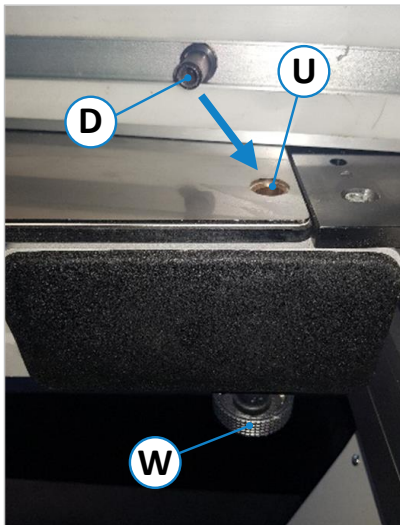
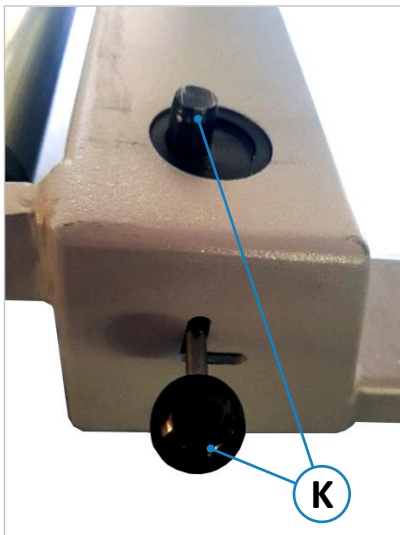
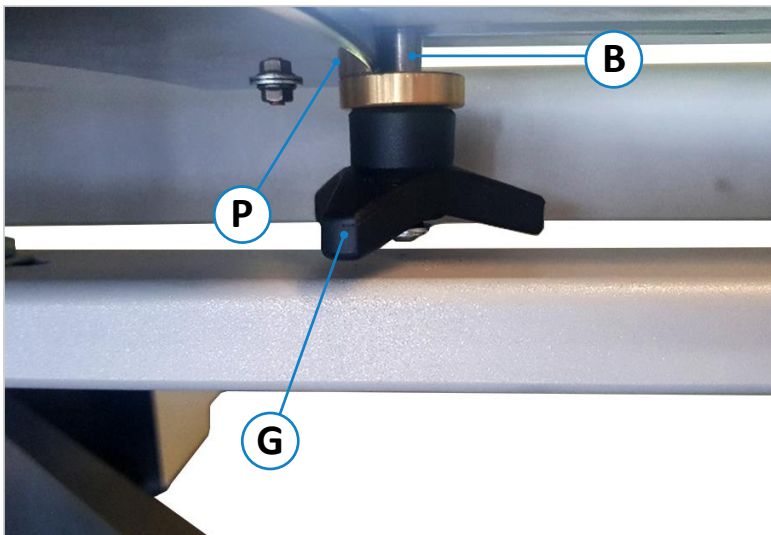
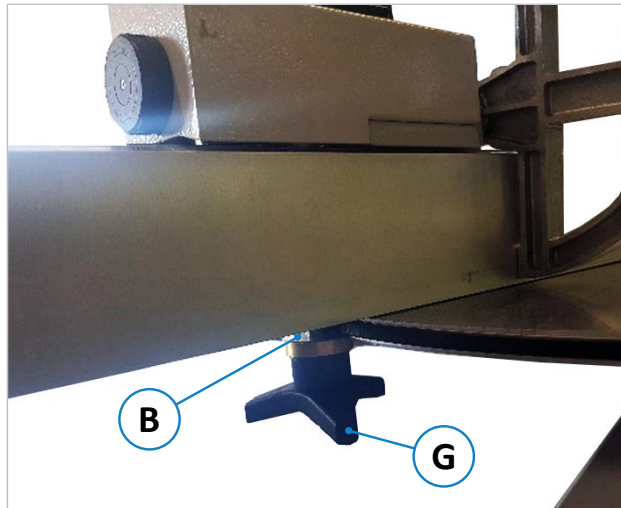

Figure 27: Mount cross-cut fence
Figure 29: Prepare 90 degree cut
Figure 30: Abut guide bolt to the angle stop plate
Figure 32: Adjusting the cross-cut fence
- Place the cross-cut fence (13) on the cross slide (22). At the same time insert the pivot bearing (D) from the cross-cut fence (13) into the locking guide (U) of the cross slide (22) as shown in ⇒ Figure 27.
- Engage the cross-cut fence (13) on the cross slide (22) with the rear locking bolt (K) in the provided groove on the cross-cut fence (see ⇒ Figure 29). The guide bolt (B) must abut against the angle stop plate (P) as shown in ⇒ Figure 30.
- Loosen lever for locking bolt (**K**), star grip (**G**) and locking handwheel (**W**) (see ⇒ Figure 27, ⇒ Figure 29 and ⇒ Figure 30).
- The guide bolt (**B**) must abut against the length angle stop plate (**P**) as shown in ⇒ Figure 30 and ⇒ Figure 32.